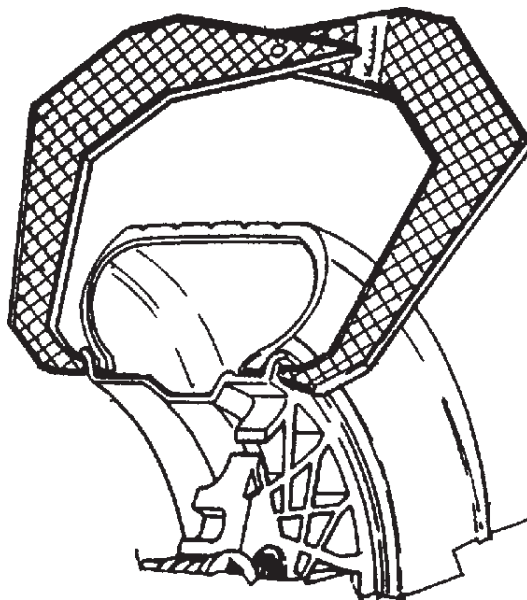

Figure 22
4.5.2. Measure rim width using rim width calipers. Measure wheel where corrective clip-on weight would be applied, *Figure 22*. Enter the measured width by rotating the width/offset knob until the desired value appears in the left display.